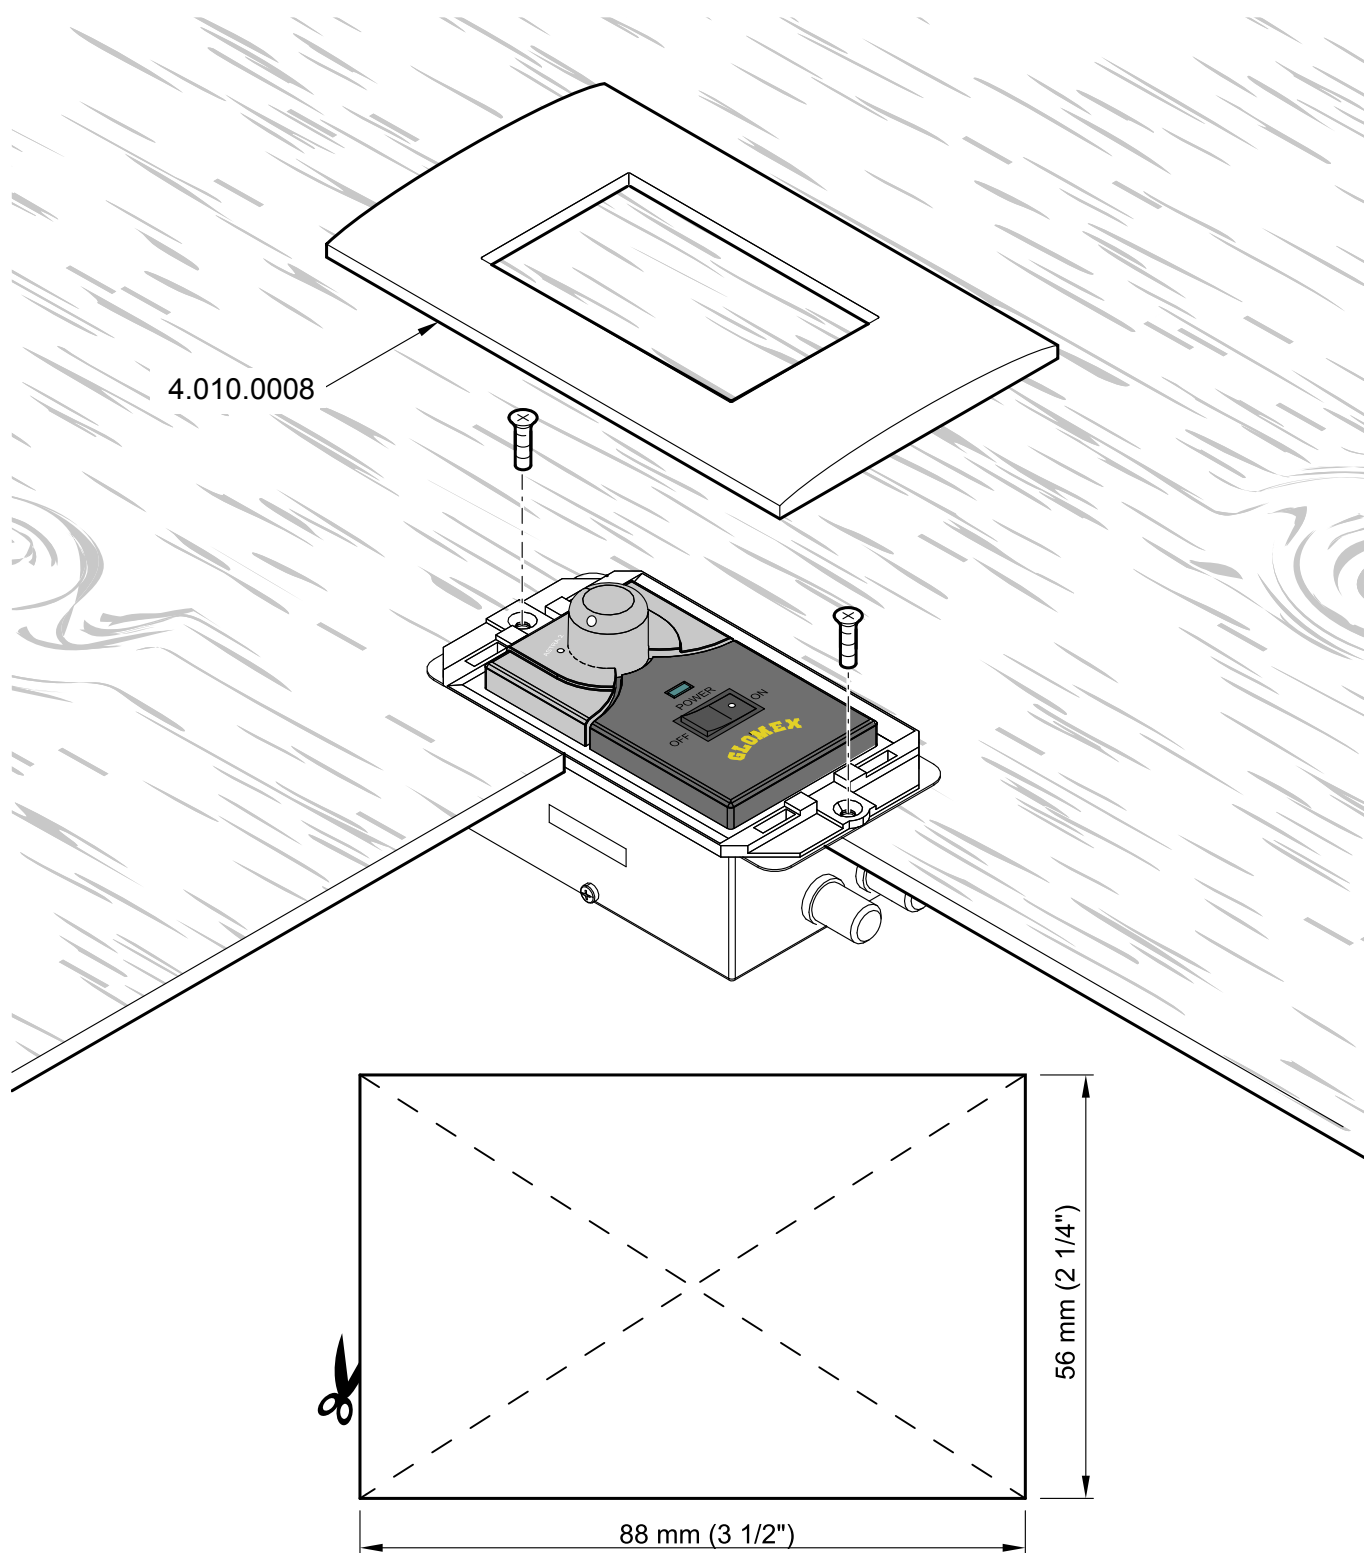

Fig. 17
- Build in the control unit by using the GLOMEX accessory (code 4.010.0008) by boring a hole with a reciprocating saw and using the drill with 2.5 mm tip (use the cutting template in Fig. 17 for correct dimensions).